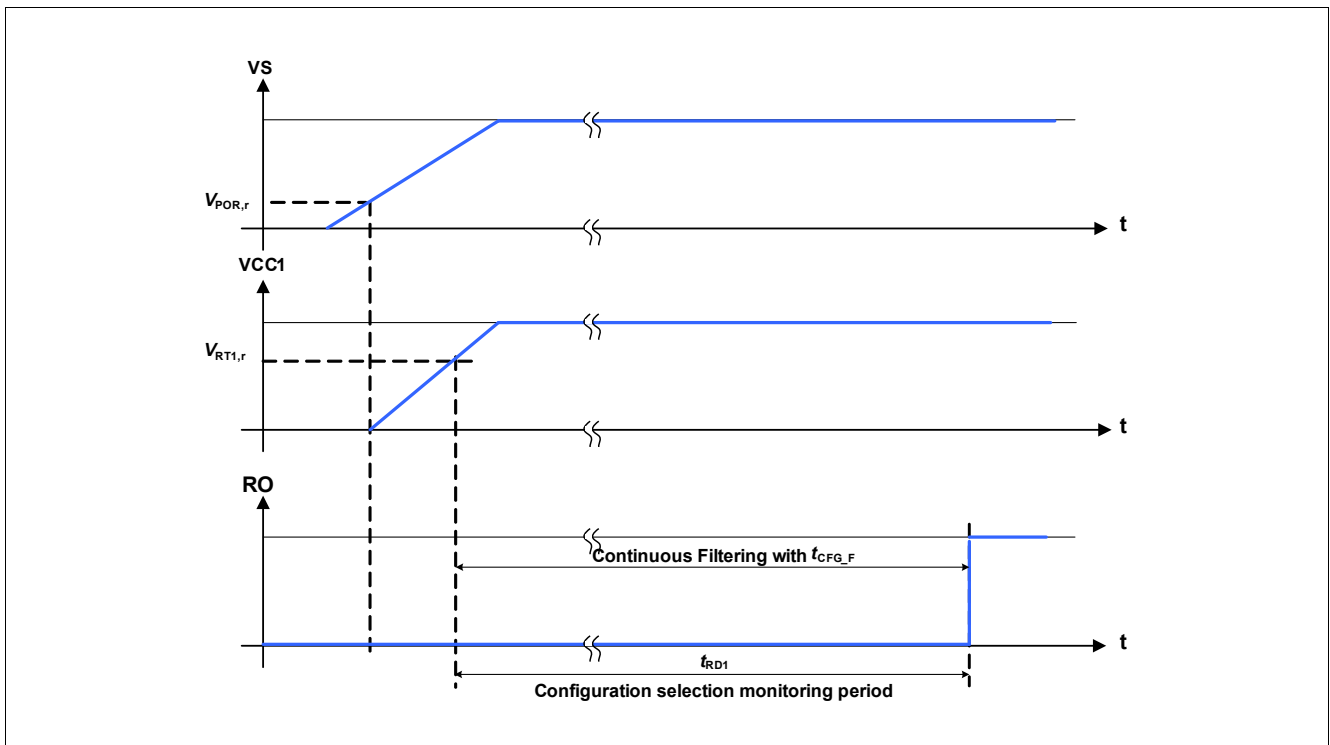

Figure 4 Hardware Configuration Selection Timing Diagram
**Figure 4** shows the timing diagram of the hardware configuration selection. The hardware configuration is defined during SBC Init Mode. The INTN pin is internally pulled Low with a weak pull-down resistor during the reset delay time  $t_{RD1}$ , i.e. after VCC1 crosses the reset threshold VRT1 and before the RSTN pin goes High. The INTN pin is monitored during this time (with a continuous filter time of  $t_{CFG_F}$ ) and the configuration (depending on the voltage level at INTN) is stored at the rising edge of RSTN.